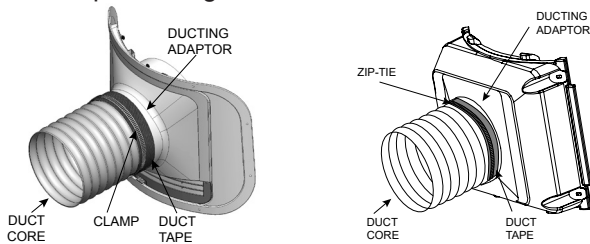

Figure 6.
- Slide at least 1" of the core duct over the ducting adaptor lip and seal with at least two (2) wraps of duct tape. Additionally, secure the core duct with a band clamp or duct strap placed over the ducting adaptor and tape see Figure 6.